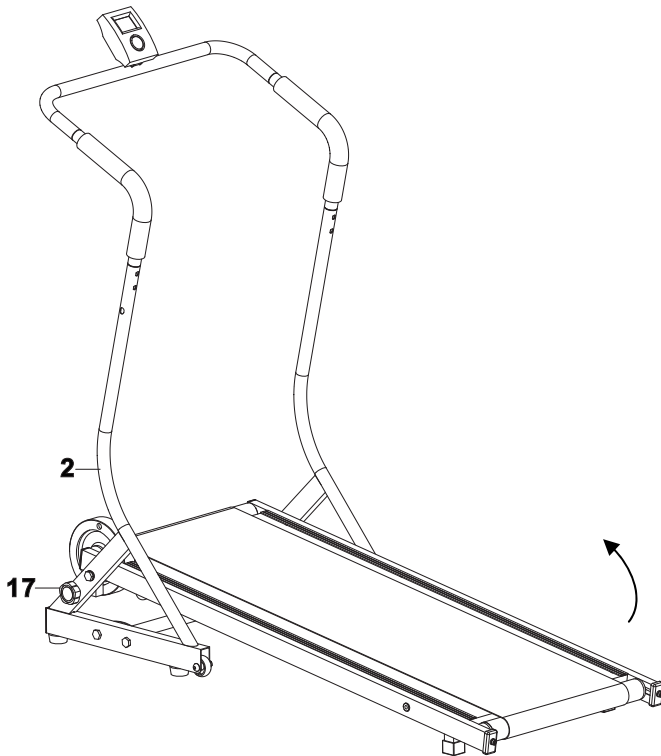

Figure 1
Remove the Round Knob (17) from the lower end of the Left Handlebar Support Frame (2). See Figure 1. Lift the rear end of the Main Frame (6) up in the vertical position and align Round Knob (17) hole. Tighten the Round Knob (17) by turning it in a clockwise direction into the holes of the Left Handlebar Support Frame (2) and Main Frame (6). See Figure 2. The unit can be carefully tilted onto its transport wheels for easy moving and storage. Store the treadmill in a clean and dry environment away from children.